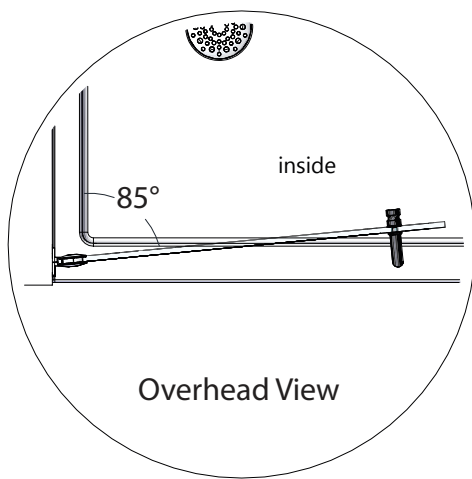

**Fig 1a**
**2)** The hinges are factory set to close at 85° (**Fig 1a**). The closing angle can be changed by using the adjustment screws on the hinge faceplate.